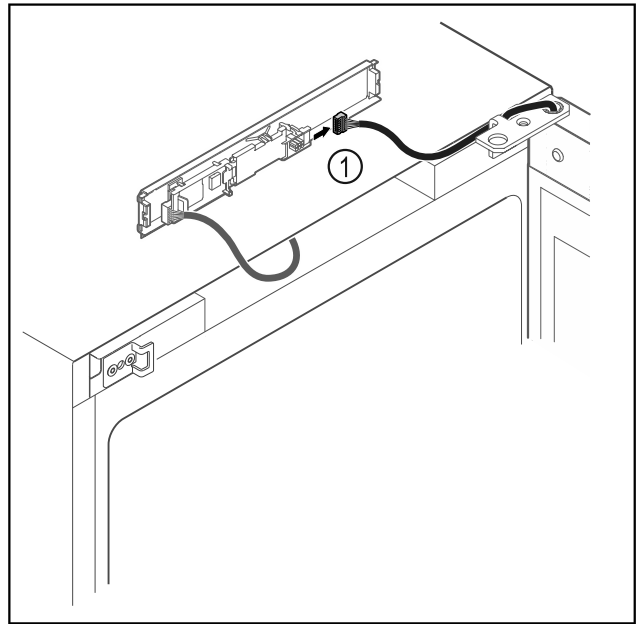

Fig. 7
► Disconnect the plug Fig. 7 (1) from the circuit board.